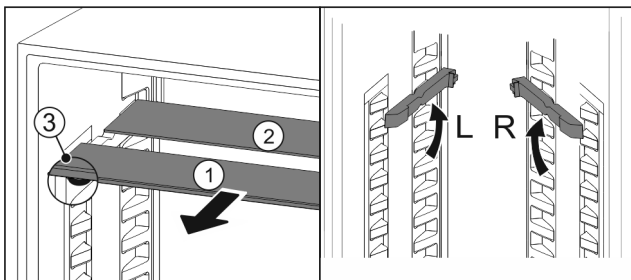

Fig. 87
- ▶ Pull the glass panels out Fig. 87 (1) from the front, one at a time.
- ▷ The glass panel Fig. 87 (1) and trim strip are at the front.
- ▷ The stops Fig. 87 (3) point down.